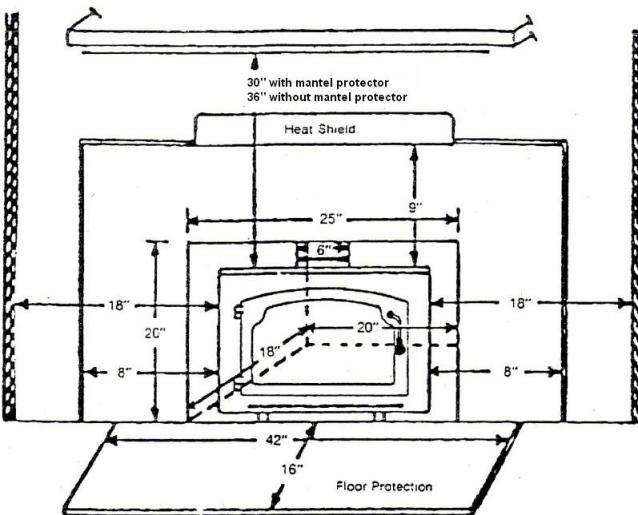

FIGURE 1
1. Check your fireplace dimensions - 25" wide in front, 20" wide in back, 18" deep and 19" high. (See figure 1)
4. Install the provided heat shield on the upper face of the fireplace as shown in Figure 1. While holding shield in place on the face of the ZCF, make a mark through the screw holes in the shield. Using a 3/16" bit, drill holes in the face of the ZCF. After the shield has been attached with the screws provided, use the large plug buttons to close the 1" holes in the face of the shield.
12. Install a mantel protector if required (See figures 1 & 2)